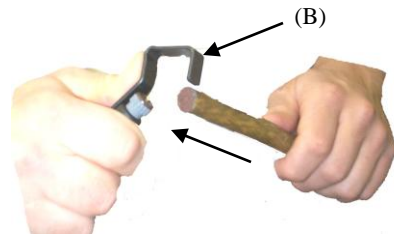

Fig. 2
Step 2. (Fig. 2) With thumb on the back of upper jaw frame (B), push upper jaw outward, insert cable at desired position and release upper jaw.